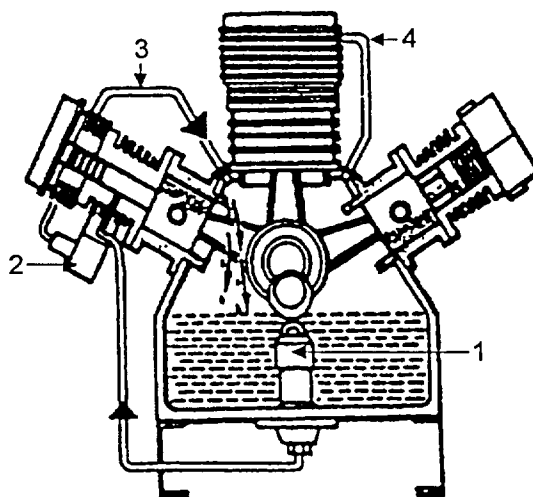

FIGURE 3-3. COMPRESSOR OIL SYSTEM
The third stage is force lubricated by a pump (Figure 3-3, Item 1) operated by a cam of the crankshaft. The oil pressure regulator valve (2) maintains the proper working pressure. Any oil not needed by the third stage is returned to the crankcase through the feedback tube (3). Other moving parts of the compressor are lubricated with oil splashed by the crankshaft. Cylinders of the first and second stages receive additional lubrication from oil vapors from the crankcase vent feedback line (4).